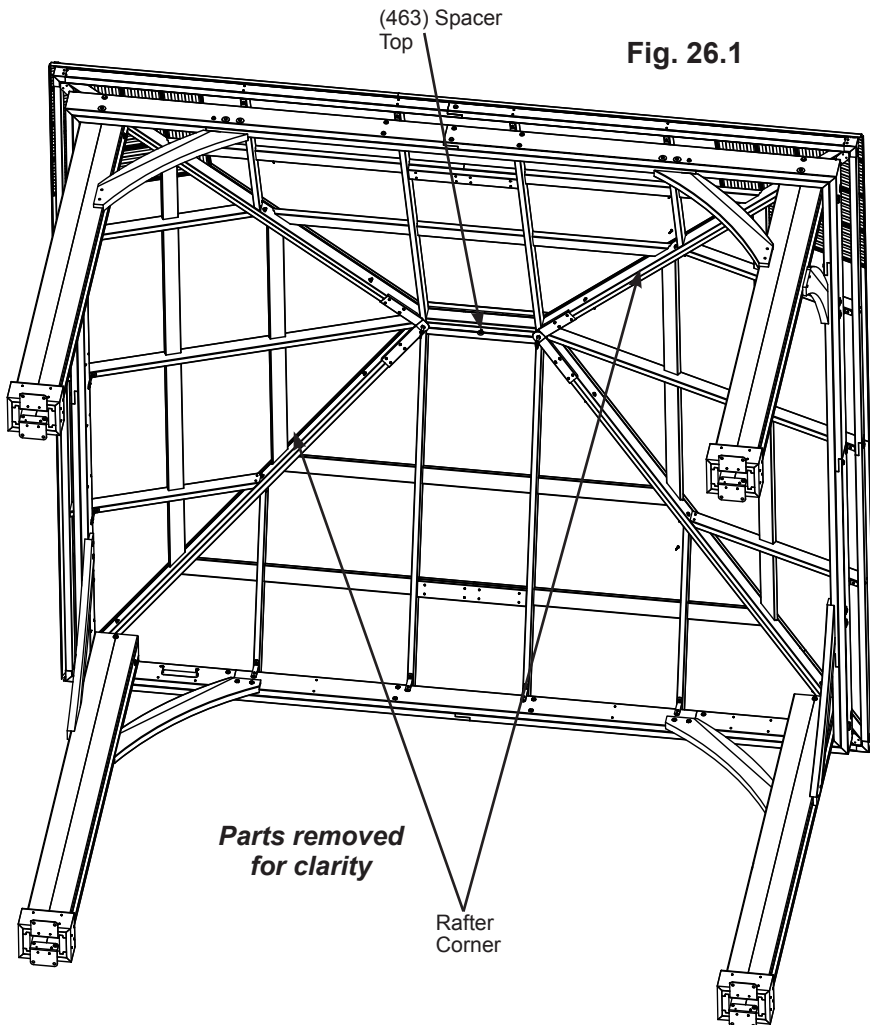

Fig. 26.1
A: Two 50 mm Hooks are included with this unit for attaching wiring. They can be placed anywhere along the Rafter Corners as needed. Pre-drill with a 1/8" drill bit before installing. (fig. 26.1 and 26.2)
B: One Eye Lag is included with this unit for hanging items with a maximum weight of 22 lbs (10 kg). Pre-drill with a 1/8" drill bit into centre of (463) Spacer Top then install Eye Lag. (fig. 26.1 and 26.3)